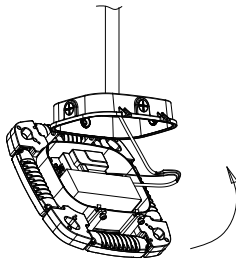

Figure 1-6
6. Close the lamp body. Figure 1-6